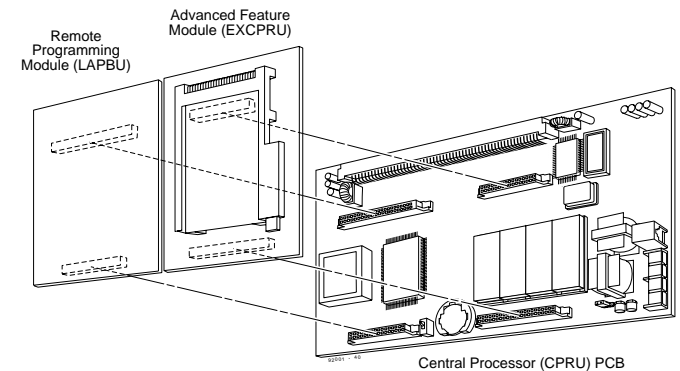

Figure 2-3 124i EXCPRU AND LAPBU MODULES
#### Advanced Feature (EXCPRU) (Figure 2-3)
1. Plug the Advanced Feature Module into the headers on the right side of the CPRU PCB as shown in Figure 2-3.
#### Remote Programming (LAPBU) Modules (Figure 2-3 and 2-4)
1. Plug the Remote Programming Module into the headers on the left side of the CPRU PCB as shown in Figure 2-3.